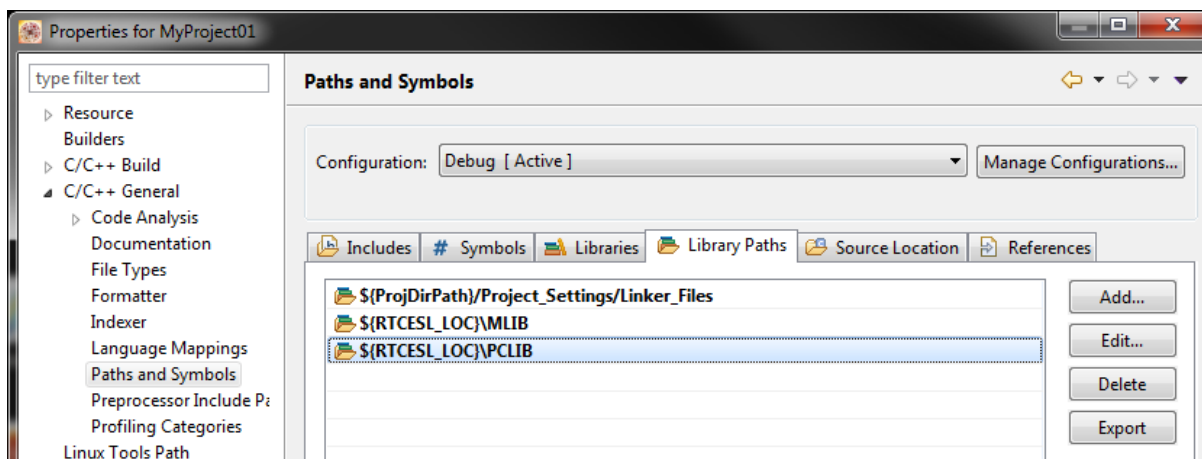

Figure 1-22. Library paths
3. In the right-hand dialog, select the Library Paths tab. See Figure 1-22.
8. Click OK, and the will be visible in the list. See Figure 1-22.